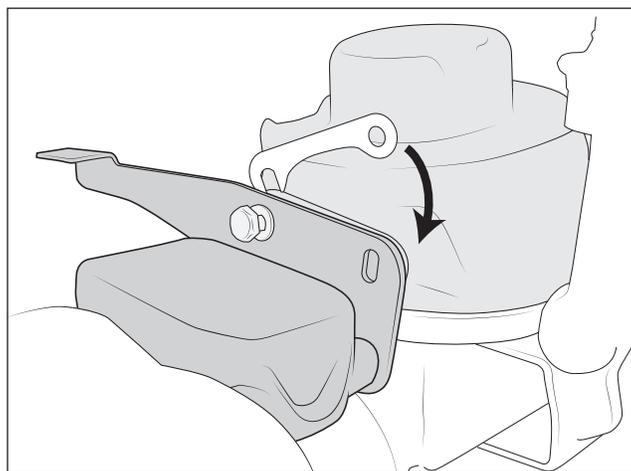

Figure 24
- g. There may be a gap between the bumps top and coil spacer. Use the supplied shims to shim as shown (fig. 24).